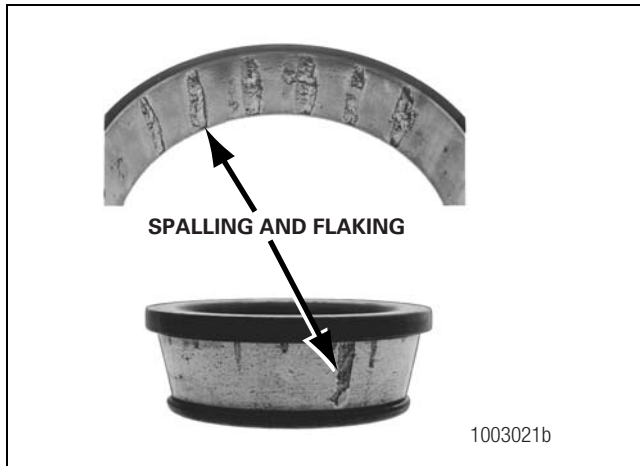

Figure 10.5
- There is damage on the cup and cone inner race surfaces that touch the rollers. Figure 10.5.